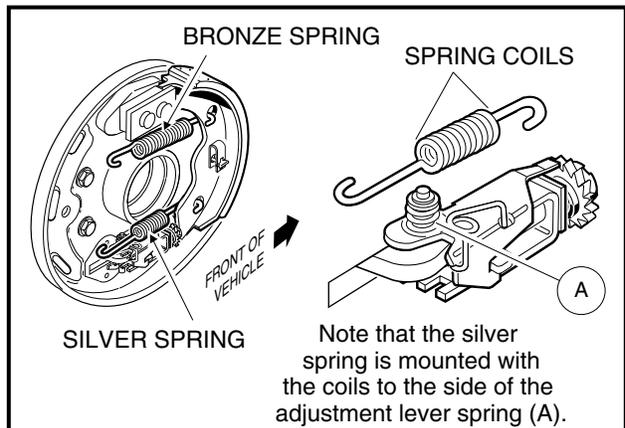

Figure 6-14 Attach Springs
3. Attach the springs onto the trailing shoe already installed. Then hold the leading shoe next to the trailing shoe, correctly oriented, and attach the springs to it (**Figure 6-14, Page 6-6**).